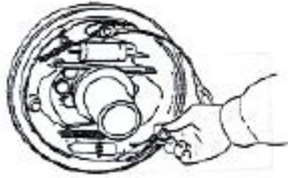

Figure 9
- (5) Parking brake cable is stuck with E-shaped retaining ring .
- (6) Install the brake shoe with a fixed spring ,as figure 9
- (7) Attached the compression spring to the hand brake lever and attached